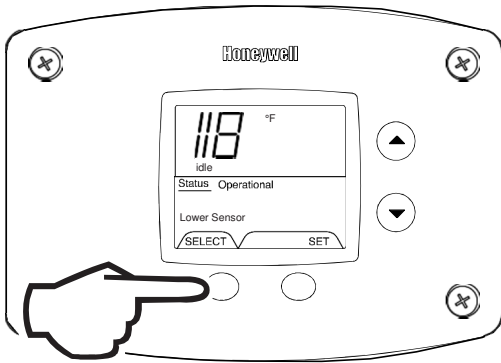

Fig. 47
3. For water heaters using two temperature sensors, pressing the 'Select' button again displays the Lower Sensor temperature reading. 'Lower Sensor' will be displayed in the lower left side of the status window of the water heater display (Fig. 47).